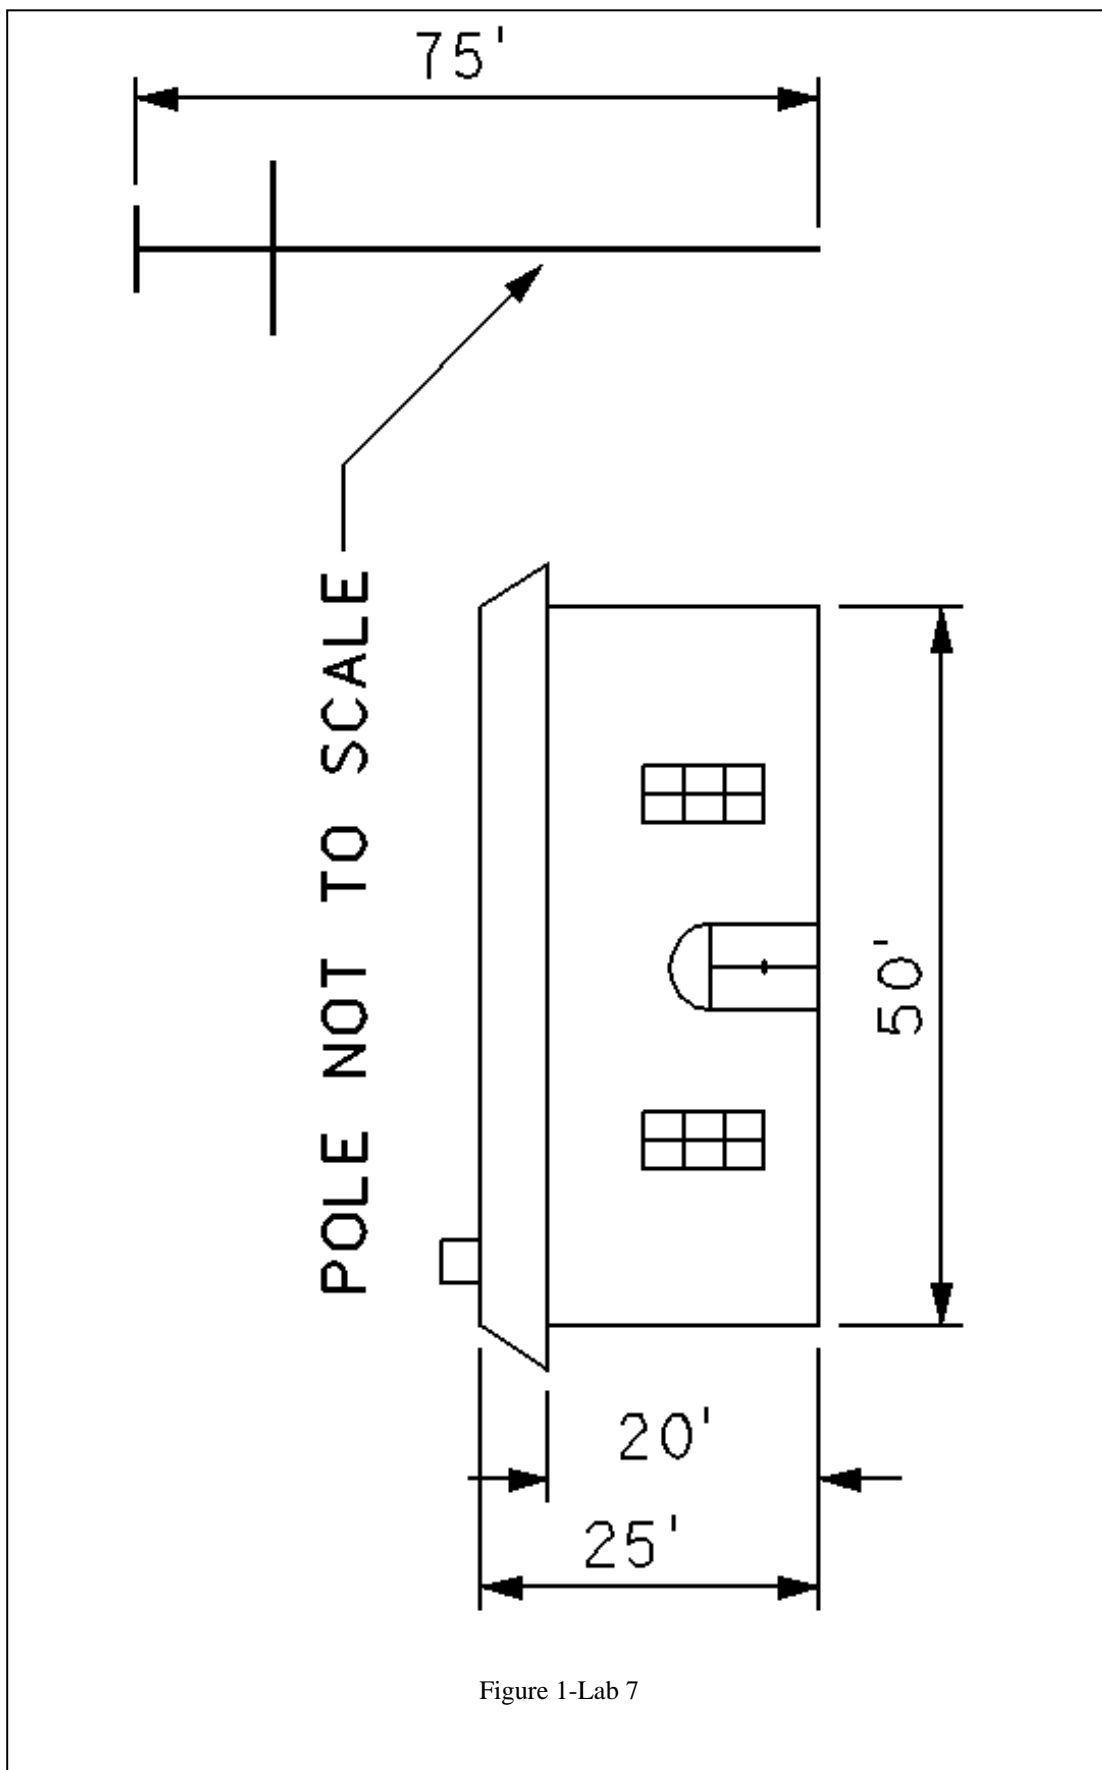

Figure 1-Lab 7
NOTE: Other methods can be used for this drawing, however this step by step procedure covers all the commands presented in the lecture. The telephone Pole in Figure 1-lab 7 is not to scale.
The objective of Lab 8 is to manipulate elements using fences. It also reinforces the material of the previous lecture concerning levels and grid manipulation. Refer to figure 1-lab 8 for the exercise illustrations.
2. Create the blocks as shown in Figure 1, Illustration 1. There are two ways to do this. One way is as follows: